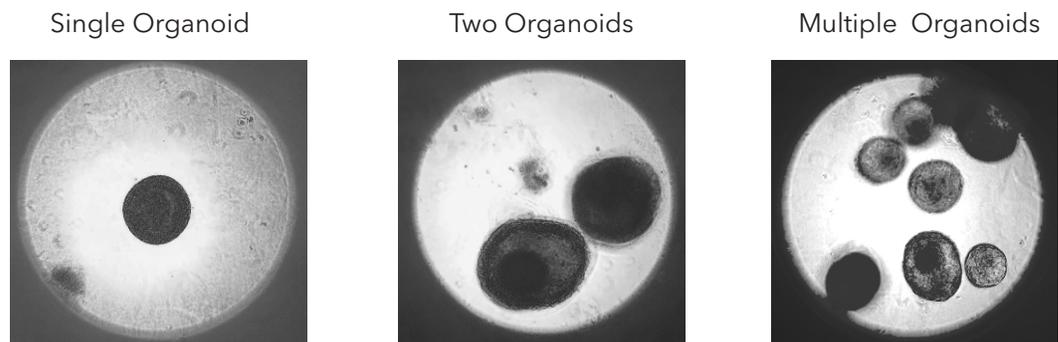

Fig 2. Bright field images of organoids in the protected sample chamber of flowchips in 25% Matrigel. Organoids shown range between 100 to 500 μm in diameter.
4. Add 18 μL of appropriate media on top of the Matrigel by placing the pipette tip on the bottom side of the well and gently press the plunger. Figure 2 shows bright field images of organoids in the protected sample chamber in 25% Matrigel.